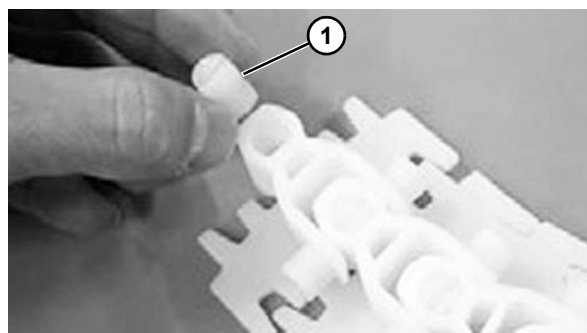

Figure 48
1. Insert the plastic pivot (**Figure 48, item 1**) with the slot facing outward.